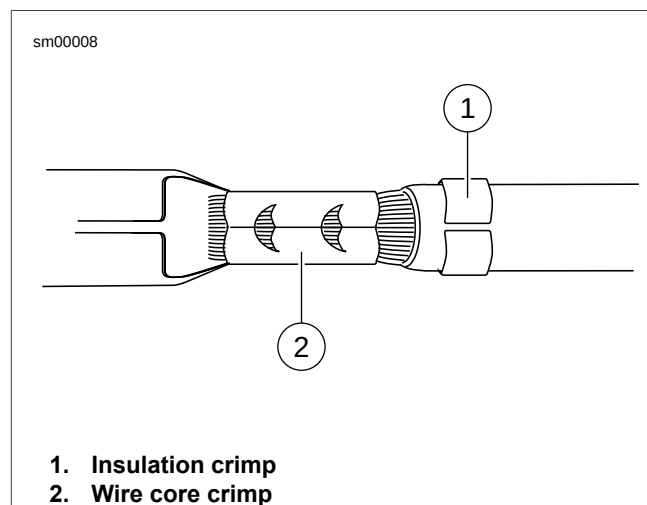

Figure A-64. Tyco 070 Multilock Unsealed Connector: Terminal Crimp
See Figure A-64. Inspect the wire core crimp (2) and insulation crimp (1). Distortion should be minimal.